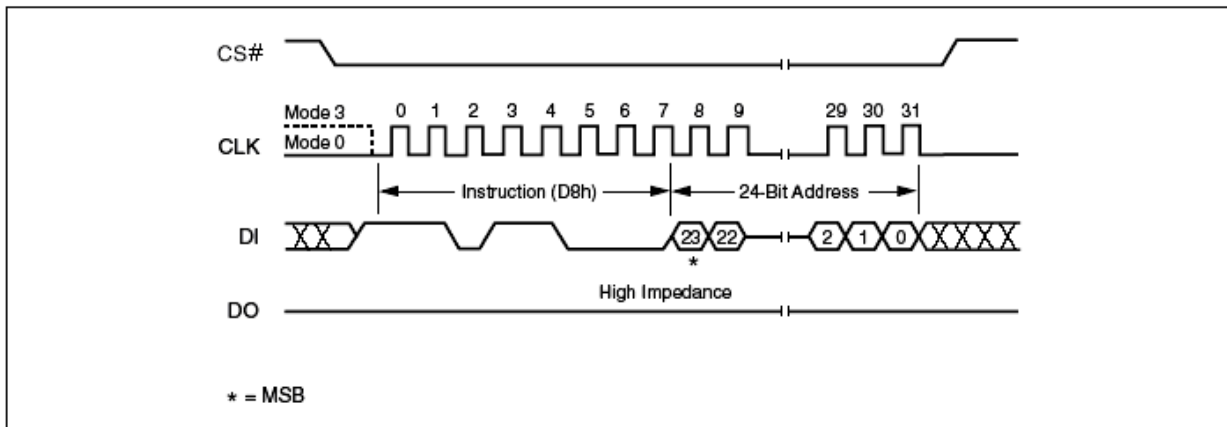

Figure 30. 64K Block Erase Instruction Sequence Diagram
The instruction sequence is shown in Figure 30. Chip Select (CS#) must be driven High after the eighth bit of the last address byte has been latched in, otherwise the Block Erase (BE) instruction is not executed. As soon as Chip Select (CS#) is driven High, the self-timed Block Erase cycle (whose duration is t_{BE}) is initiated. While the Block Erase cycle is in progress, the Status Register may be read to check the value of the Write In Progress (WIP) bit. The Write In Progress (WIP) bit is 1 during the self-timed Block Erase cycle, and is 0 when it is completed. At some unspecified time before the cycle is completed, the Write Enable Latch (WEL) bit is reset. A Block Erase (BE) instruction applied to a block which is protected by the Block Protect (BP3, BP2, BP1, BP0) bits (see Table 3) or Boot Lock feature will be ignored.